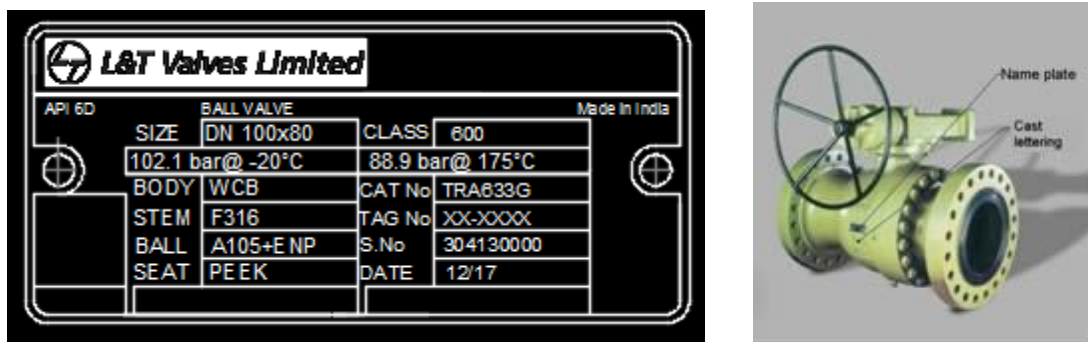

Fig.1. Identification plate location & view of a typical Identification plate
- The valve identification details can be found on the Identification plate and on the body of the valve as cast lettering. A typical Identification plate is shown in Fig. 1.